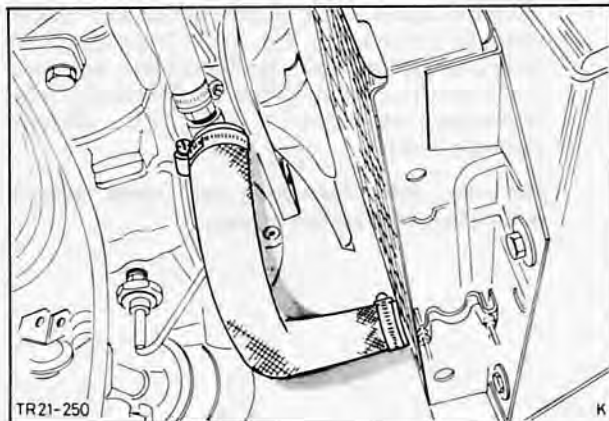

Fig. 124. Disconnect radiator hose from radiator
1. Disconnect battery earth strap, drain coolant into tray by disconnecting radiator hose from radiator bottom neck and engine water outlet at top, Fig. 124.